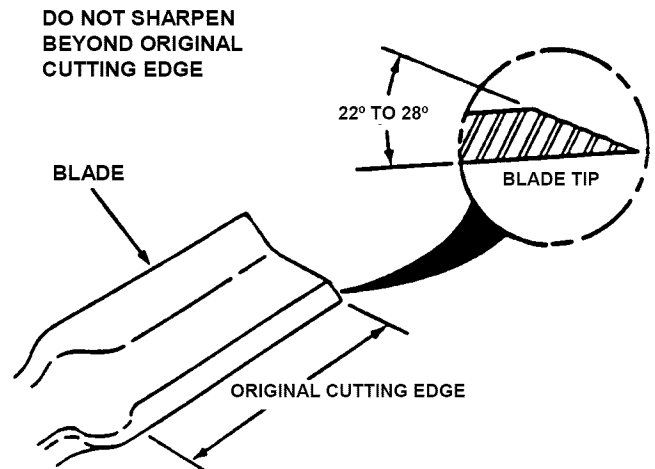

FIGURE 4.7
3. If blade is in good condition, sharpen at 22 to 28 degrees. **DO NOT** sharpen beyond existing cutting edge. See Figure 4.7.